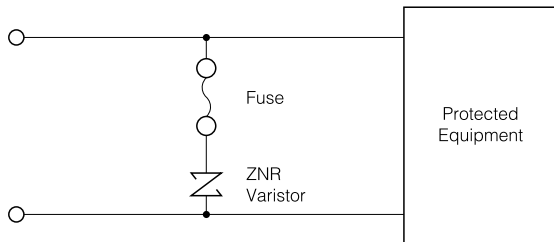

Fig. 2 Alternative Fuse Location/Placement for Varistor Protection
2.3.1 When a line current of equipment is higher than the recommended current rating of the fuse in Table 2, the location of the fuse should be arranged as shown in Fig 2.